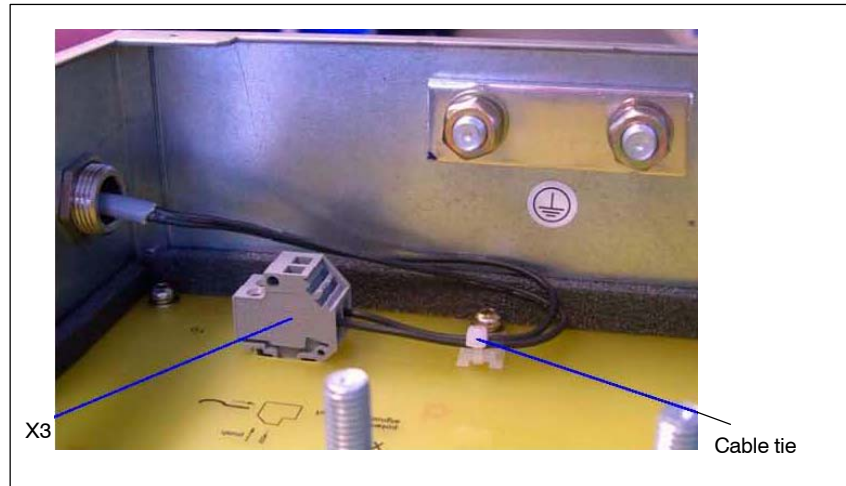

Fig. 8-45 Connecting the X3 signaling contact for VPM 200 and VPM 200 Dynamik
- Connect the cables to X3 and secure them with the cable tie (see Fig. 8-45)
- K2 green/yellow (PE) ⇒ PE1